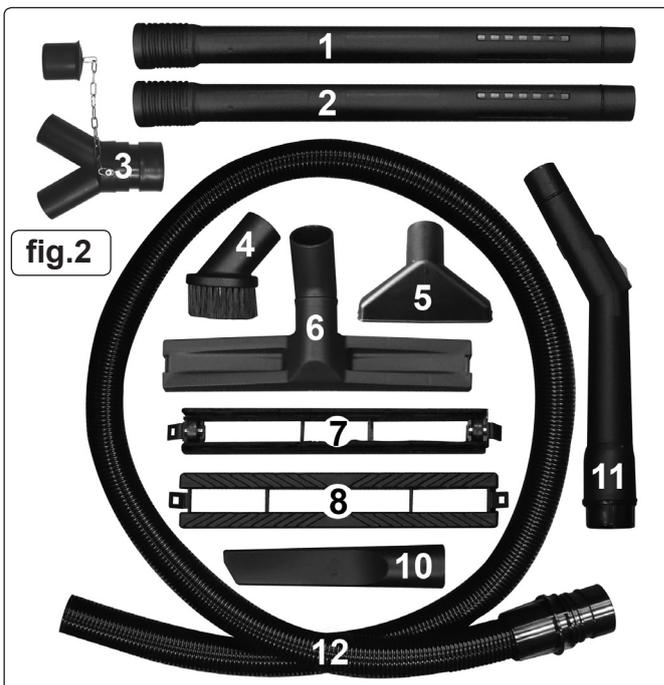
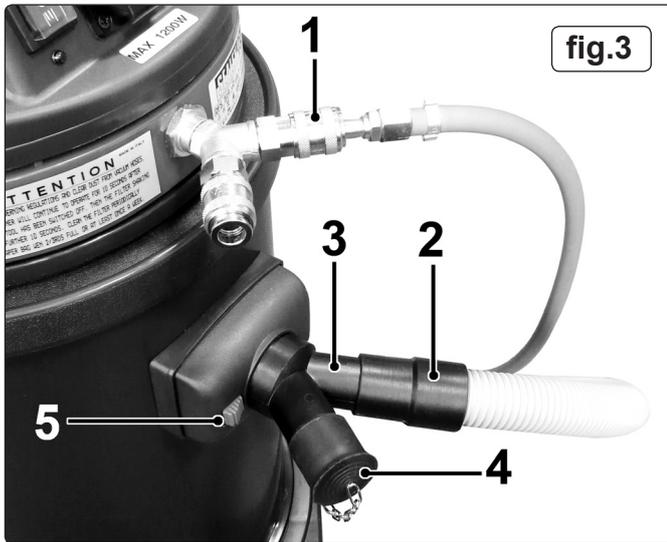

fig.2
fig.3
- 4.1.1. Take the 'Y' connector, see 3 in figs 2 & 3 and insert it into the intake socket near the top of the drum as shown in fig.3. Close off one branch of the 'Y' connector using the cap on the chain as shown in fig.3-4.
- 4.2.1. Take the 'Y' connector, see 3 in figs. 2 & 3 and insert it into the intake socket near the top of the drum as shown in fig.3. Close off one branch of the 'Y' connector using the cap on the chain as shown in fig.3-4.
- 4.3.3. If still in place detach the "Y" connector from the unit by using the red ribbed release catch. See 5 in fig.3. Insert the black vacuum hose directly into the unit intake until it snaps into place.